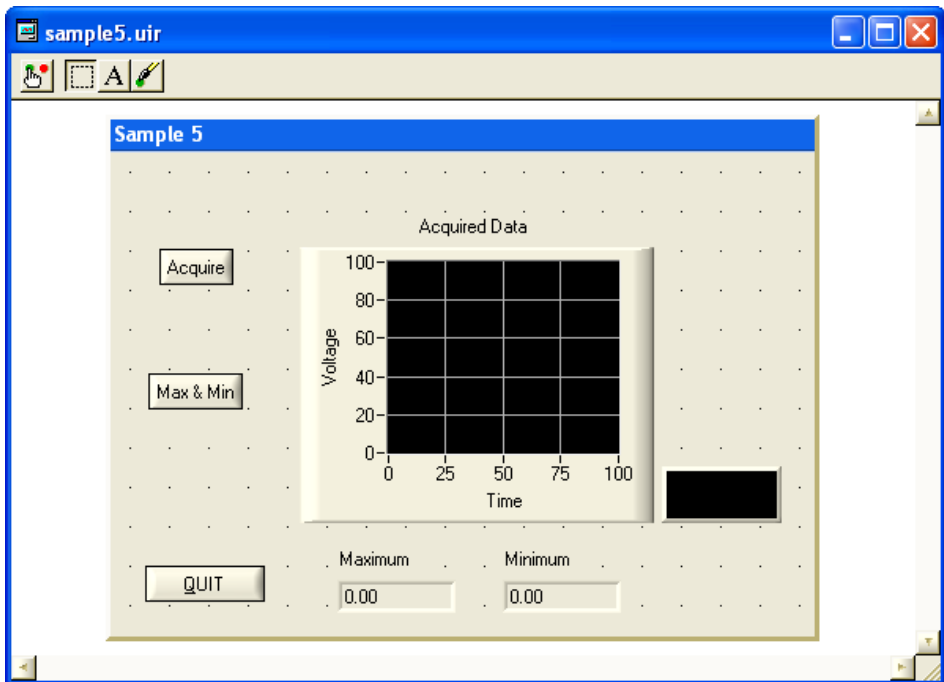

Figure 7-1. Sample User Interface
2. Without closing the `sample5.c` source code, open `sample5.uir`. Your goal is to modify the `.uir` to match the user interface shown in Figure 7-1.
- Position the new controls on the user interface to match those shown in Figure 7-1.